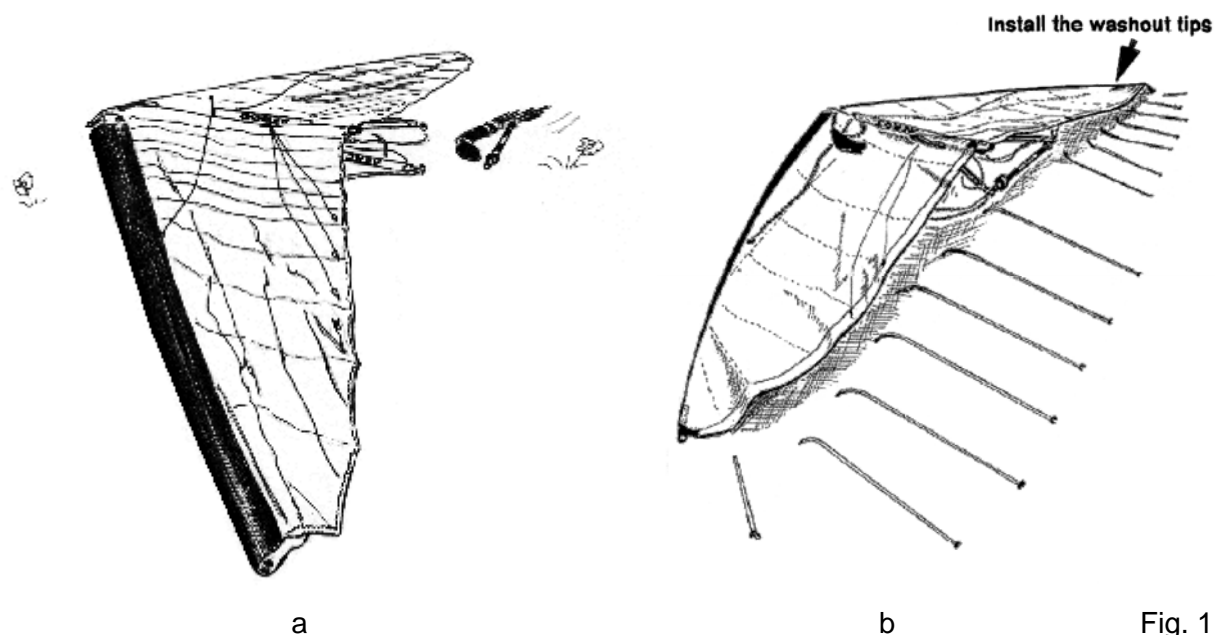

Fig. 11
2.2.6. Spread the wings so, that the sail is a little loose and the glider is resting flat on the ground (Fig. 11).